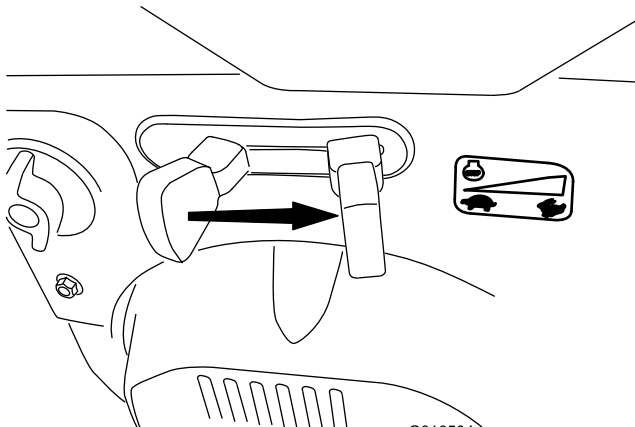

Figure 30
6. Move the throttle to the Fast position (Figure 30).